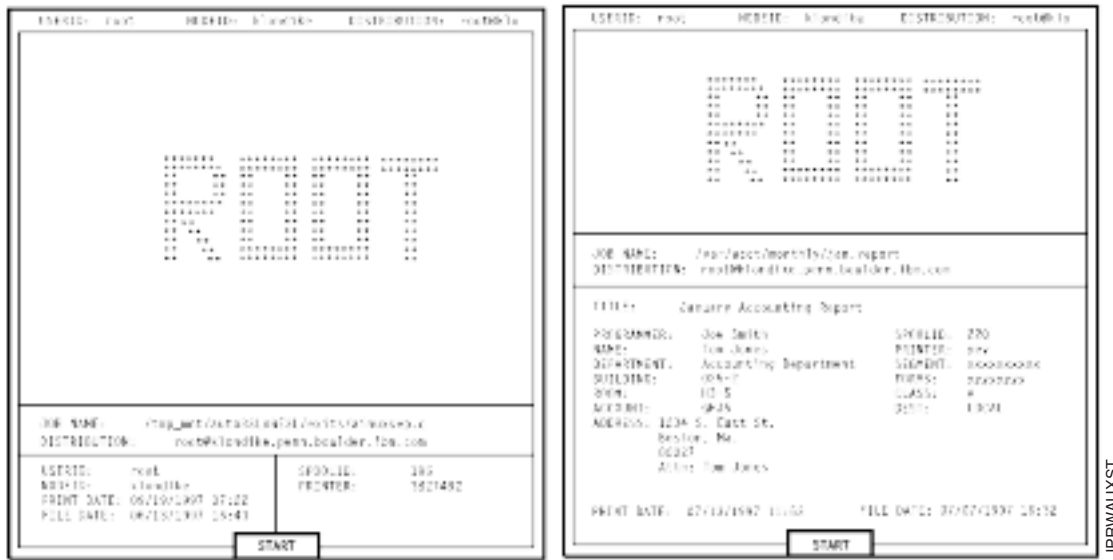

Figure 38. Brief and Full Styles of Start Sheets
**Start Sheet Examples:** In Figure 38, the user-exit program **ainuxhdr** generated the brief style of the start sheet and user-exit program **ainuxhdr2** generated the full style of the start sheet.